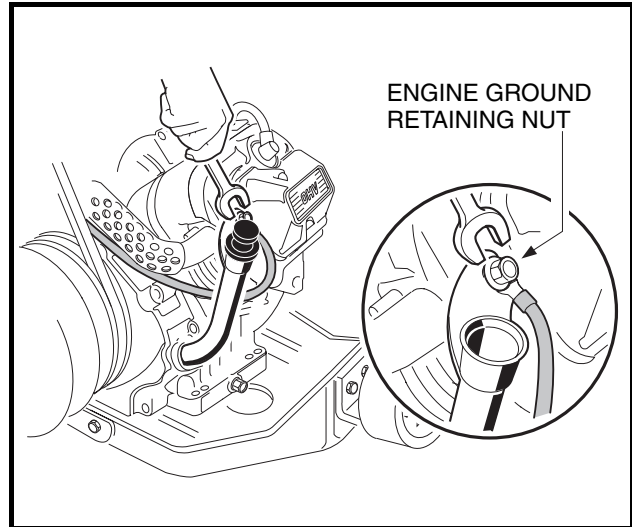

Figure 16-14 Engine Ground Wire
- 4.6. Remove retaining nut and disconnect the engine ground wire from the oil filler tube mounting bracket (**Figure 16-14, Page 16-9**).